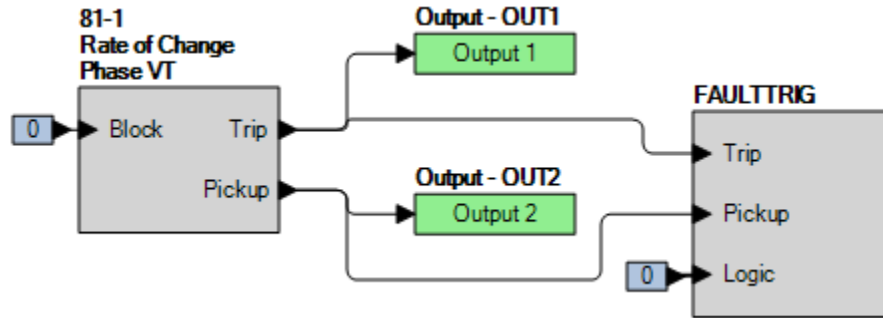

Figure 71-4. BESTlogicPlus Settings (ROC Inhibit)
Step 2: Use BESTCOMSPPlus to configure the BESTlogicPlus programmable logic shown in Figure 71-4.